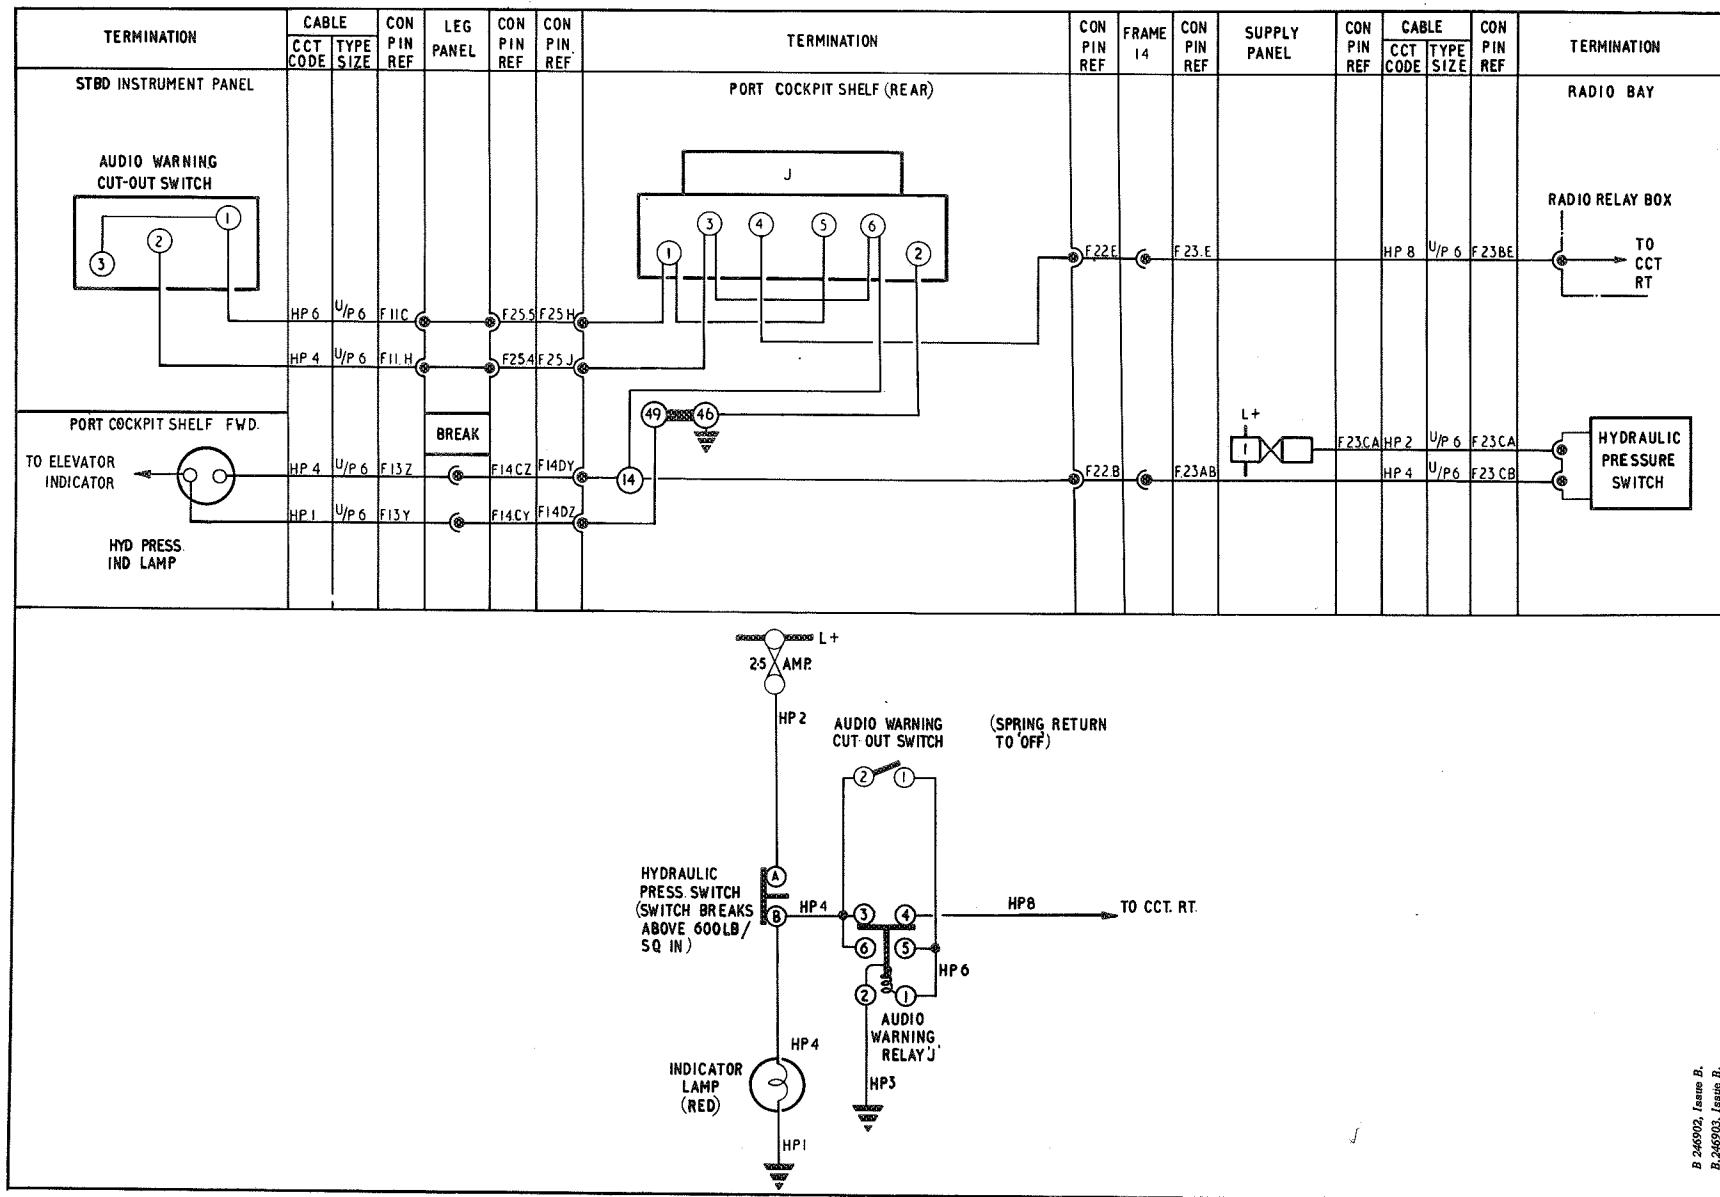

Fig.2 Hydraulic pressure warning (routeing and theoretical)
6. Both these warning devices are supplied from a fuse on the supply panel, and the supply to their circuits is controlled by a pressure switch in the hydraulic pipe-line, situated on the port side of the TACAN bay. The supply to the audio warning circuit is taken through contacts on relay J, (fig.2), which is situated on the underside of the cabin port shelf.